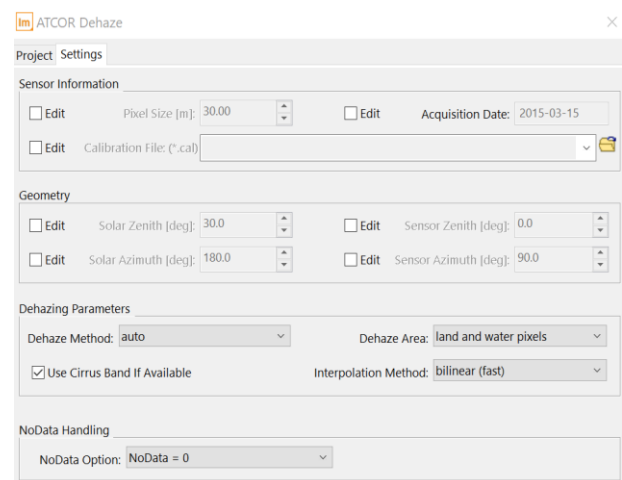

Figure 4: ATCOR Dehaze Settings Tab.
5. Navigate from the Project Tab to the **Settings Tab** (Figure 4).